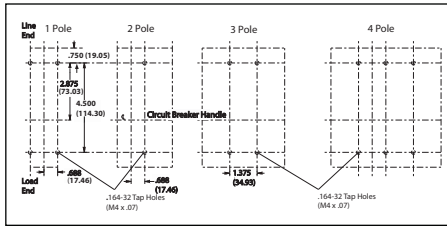
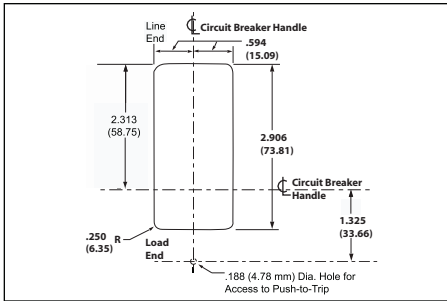

Figure 2. Circuit Breaker Mounting Bolt Drilling Plans
Figure 3. Circuit Breaker Escutcheon Dimensions
a. For individual mounting panels, make sure that mounting panel is predrilled using bolt drilling plan (Fig. 2). For panelboard mounting, only load end support mounting holes are required. For deadfront cover applications make sure panel cover is cut out to correct escutcheon dimensions (Fig.3).